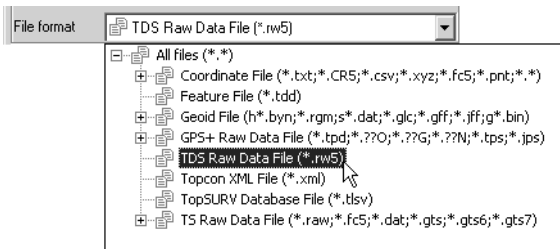

Figure 3-71. TDS Raw Data File Formats
- the File format (Figure 3-71).